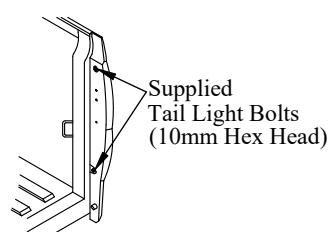

Figure 9: Replacement tail light bolts.
2. Install the M6 x 1.00 x 16 bolts (T-500 Bolt Kit) into the factory tail light screw locations (Figure 9).